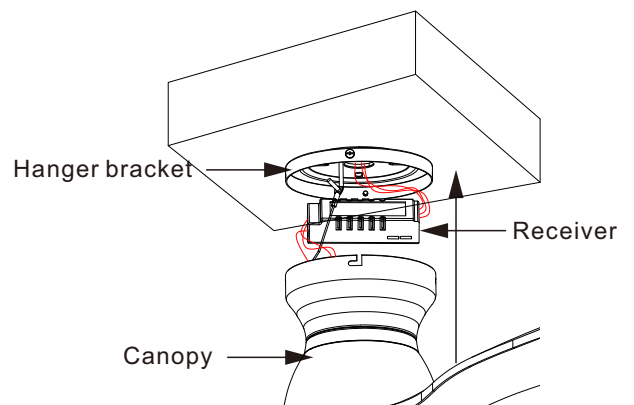

Figure 13
Step 1. (Fig. 13) Insert the receiver into the hanger bracket with the flat side of the receiver facing the ceiling.